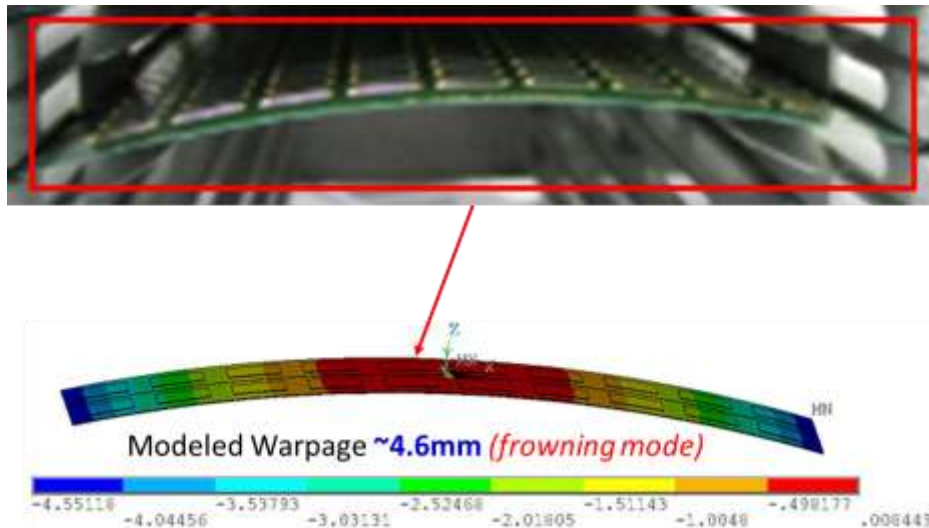

Fig. 4. Strip warpage based on the modeling and compared with actual warpage.
- With the die attached on the bonding side of the substrate, a “frowning” warpage was observed after die attach cure process as shown in Fig. 4.